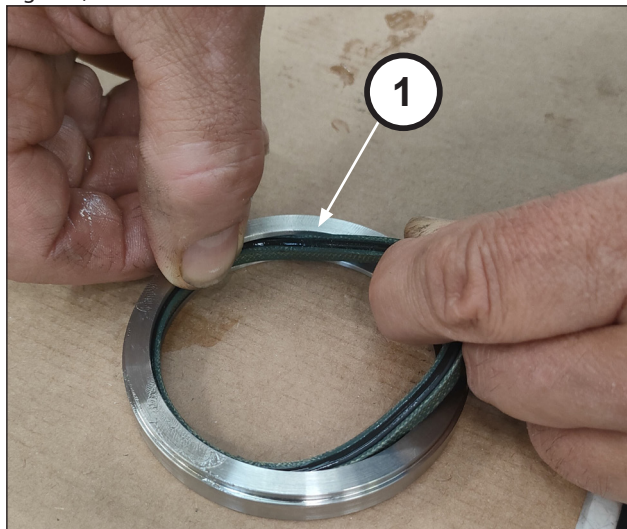

Fig. 148
Insert the low pressure seal into the LP seal ring (pos. ①, Fig. 148).